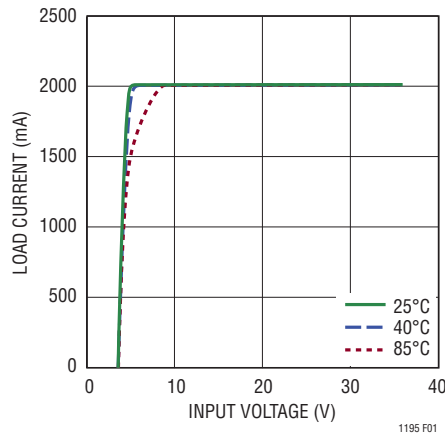

Figure 1. Load Current vs Input Voltage ( $3.3V_{OUT}$ )
**Note 1:** The circuit requires more than 5V to run at full load. See Figure 1 and the data sheet for detail.